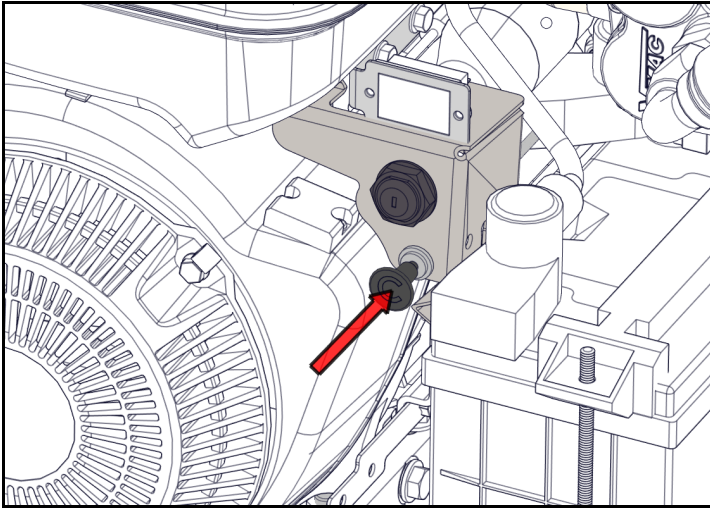

Figure 22 – Choke
- 3) Once running, push the choke to the “OFF” position (Figure 22).